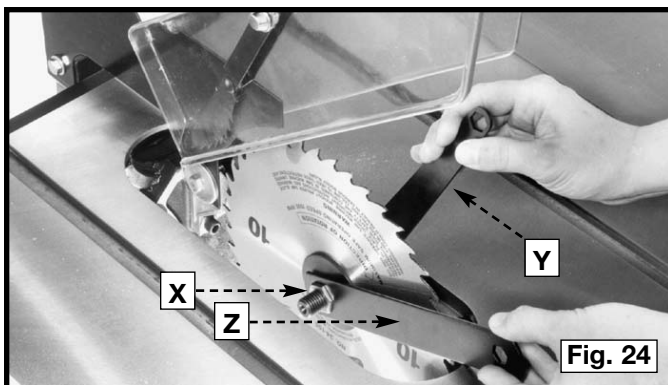

Fig. 24
11. Install the saw blade, making certain the teeth are pointing down at the front of the saw table (Fig. 24). Install the outside blade flange and arbor nut (X). With open-end wrench (Y) on the flats of the arbor to keep it from turning, tighten arbor nut by turning box-end wrench (Z) counter-clockwise.